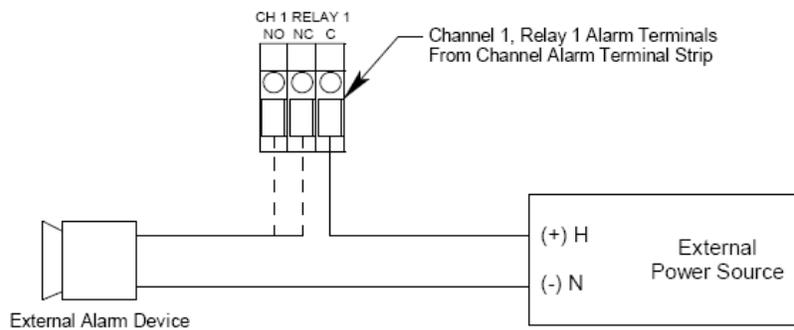

Figure 8: External Alarm Wiring
6. Connect the leads from the external alarm device and an external power source to the selected channel alarm or common/channel alarm relay contact terminals as shown in Figure 8.